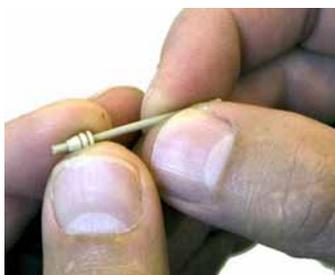

Fig. 6: Inspecting the fitting
6. Remove the preassembled fitting from the tool and inspect the fitting. When you gently pull the ferrule, you should not be able to move the ferrule on the sleeve. If the ferrule sleeve moves laterally (→ Fig. 6), re-insert the fitting all the way into the preassembly tool and tighten it an additional 1/8 turn past finger-tight.